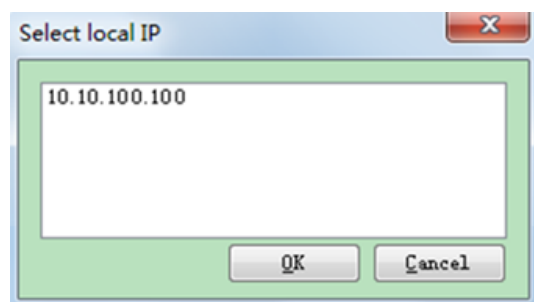

Figure 3.8: The dialog box is displayed. Confirm and click IP
- (6) One dialog box is displayed to choose local IP after clicking ok button. Assure local IP address is 10.10.100.100, click the local IP address then click the ok button. As shown in figure3.8.